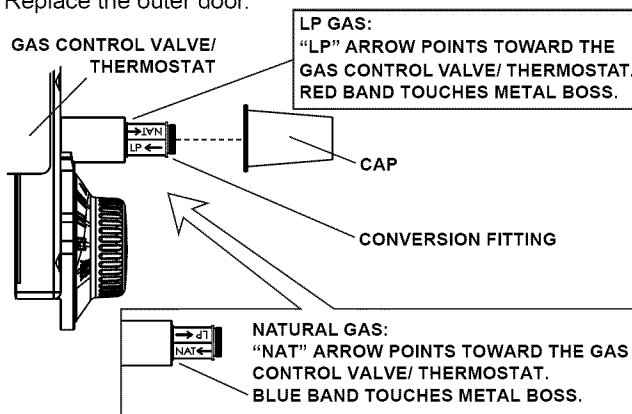

FIGURE 12.
1. Remove the cap (shown in Figure 12), then remove the conversion fitting by turning it counter-clockwise with an adjustable wrench.
- A. If you are converting the gas control valve/thermostat to use LP gas (propane), verify that the "LP" arrow on the fitting is pointing toward the gas control valve/thermostat. The red band on the fitting should touch the metal boss. See Figure 12.
- B. If you are converting the gas control valve/thermostat to use natural gas, verify that the "NAT" arrow on the fitting is pointing toward the gas control valve/thermostat. The blue band on the fitting should touch the metal boss. See Figure 12.